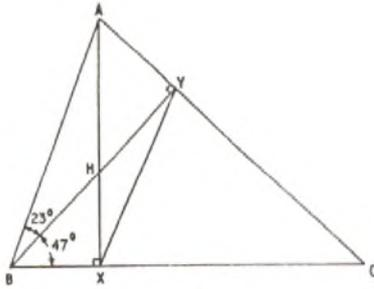

Fig. 1
Q. 4. In Fig. 1 below, a triangle  $ABC$  has altitudes  $AX$  and  $BY$  which intersect in  $H$ .  $\angle ABH = 23^\circ$ ,  $\angle CBH = 47^\circ$ .